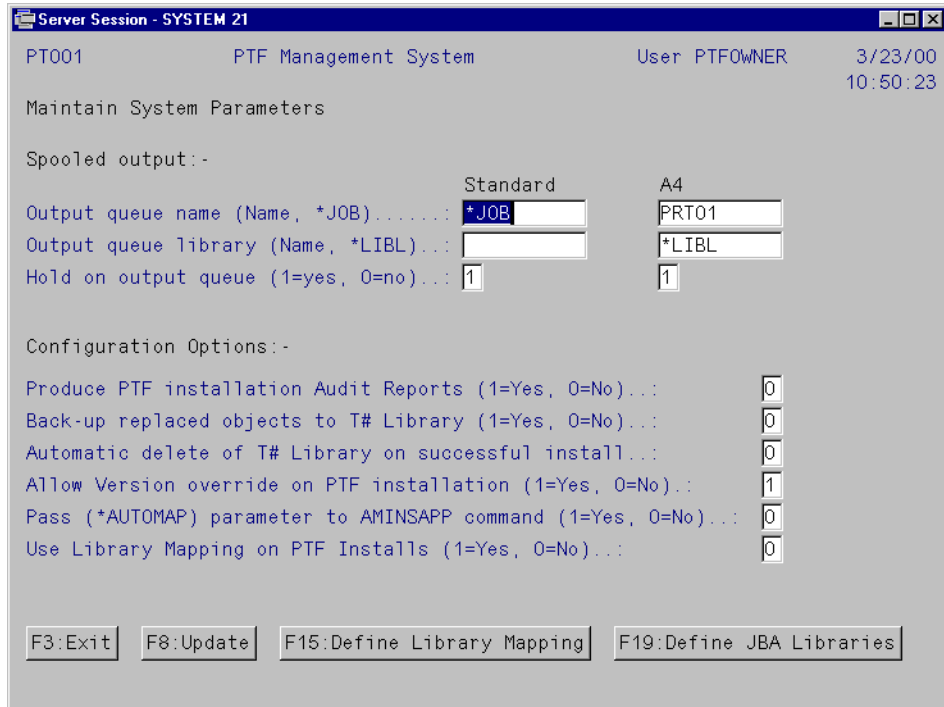

Figure 99. PTF Management System parameters set up screen.
This displays the Maintain System Parameters screen (Figure 99 on page 192).
1. Click **Define Library Mapping**, or press F15 on the Maintain System Parameter screen (see Figure 99).
To add or delete a library in the From Library list, click **Define Libraries**, or press F19 on the Maintain System Parameters screen. See Figure 99 on page 192.